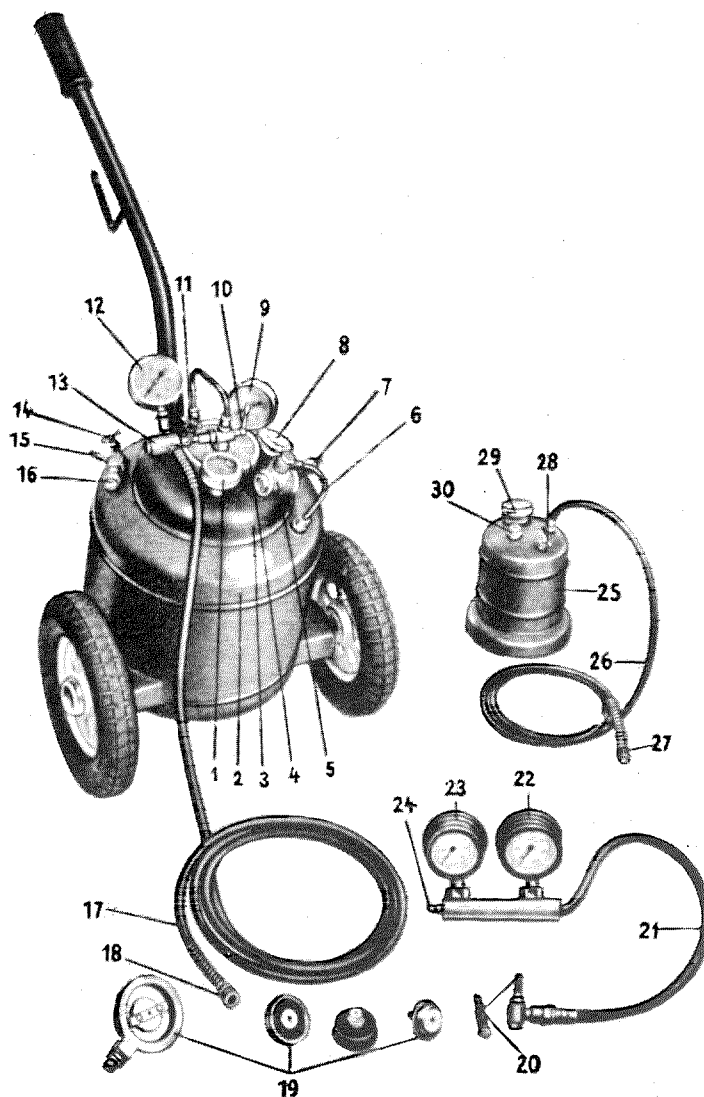

Fig. 42 — 1/6
1. Fill the brake fluid tank (3) with ATE brake fluid through the filler pipe (8) (minimum 3 liters, maximum 6 liters).
2. Put the three-way valve (10) in its vertical position and close valve (11).
3. Fill the compressed-air tank (2) over the filler pipe (15) with completely dry, compressed air until the pressure gage (9) indicates a pressure of approx. 4.5 atmospheres.
4. Close the valve (14) at the compressed-air tank.
5. Remove the filler plug from the fluid reservoir of the brake master cylinder and install a suitable filler hole fitting (19).
6. Connect the hose (17) of the power bleeder to the filler hole fitting (19).
7. Put the three-way cock (10) in its horizontal position pointing to "Füllen und Entlüften" (filling and bleeding) and open valve (11).
8. Adjust the pressure indicated on pressure gage (12) to 2.2—2.5 atmospheres by means of the adjusting screw (7) of the reducing valve (5).
10. To start the bleeding operation remove the rubber protective cap of the bleed screw and fit the bleeder hose over the bleed screw nipple (Fig. 42—1/5).
Note: Fig. 42—1/5 shows the bleeding operation at the right front wheel.
11. Immerse the free end of the bleeder hose in a clean glass container partly filled with brake fluid until the end of the bleeder hose is below the fluid level (see Fig. 42—1/5).
1. Remove the filler plug from the bleeder and fill the fluid tank with 3 to 4 liters ATE brake fluid (Fig. 42—1/7).